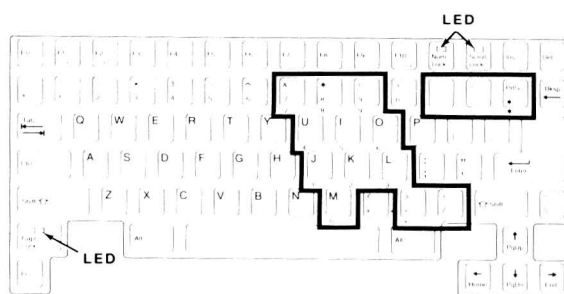

Figure 3-4. Portable Computer's Keypad
**Keypad lock modes** — Refer to Figure 3-4 for the Portable computer's keypad. The FN-NUM LOCK key combination toggles the keypad lock on and off. When the keypad lock is active, the FN key causes the keypad keys to generate alphanumeric characters. The key codes produced are dependent upon the state of the CAPS LOCK mode. The indicator (LED) lights when the keypad lock is on.